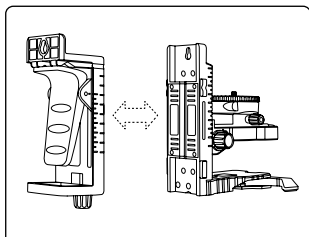

FIGURE 10
- Attach the two mount pieces together with the clamp facing upwards on the rear mounting adapter piece (Fig.10).